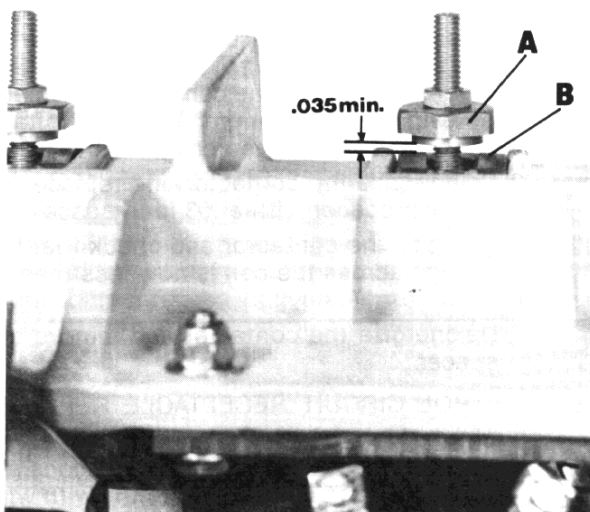

FIGURE 1
Measure gap from bottom of gap adjustment nut (A) (see Figure 1) to the top of metal pivot plate (B). DO NOT CHANGE ADJUSTMENT OF NUT. This measurement must be .035 inches minimum. If measurement is less than .035 inches, the contact tips have worn beyond acceptable tolerances and a new bottle assembly is required.